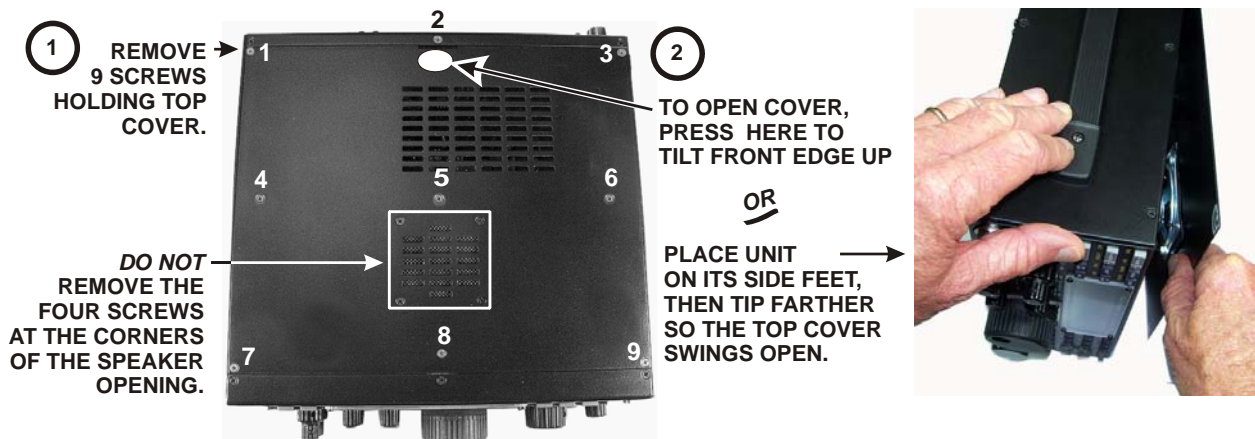

Figure 1. Removing the Top Cover
- Remove the top cover as shown in Figure 1. After the cover is open, lift it gently to reach the speaker wire connector. Unplug the speaker then set the top cover aside in a safe place.